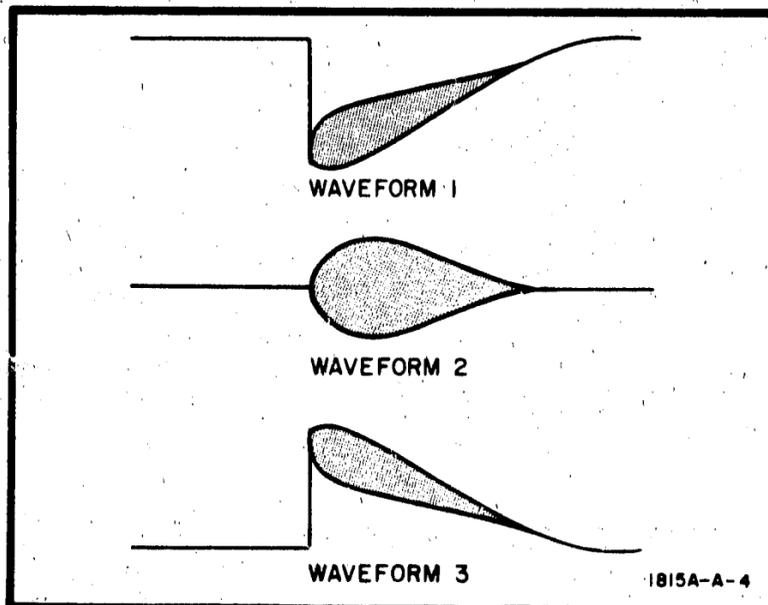

Figure 5-9. Diode Bias Waveforms
h. Adjust CEN BIAS potentiometer A3R14 in the remote sampler to obtain a waveform on the oscilloscope most like waveform 2 in Figure 5-9.